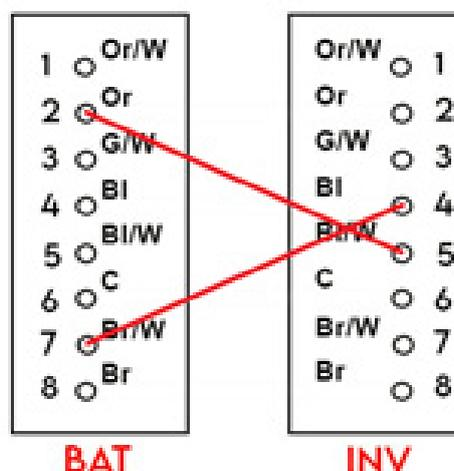

Figure 3: Pinouts for Giter-Sunsynk CAN Cable
- The pinouts for cable can be seen in Figure 3.
- Set "Shut down" to 15%, "Low Batt" at 20% , "Restart" at 25% as shown in Figure 3.